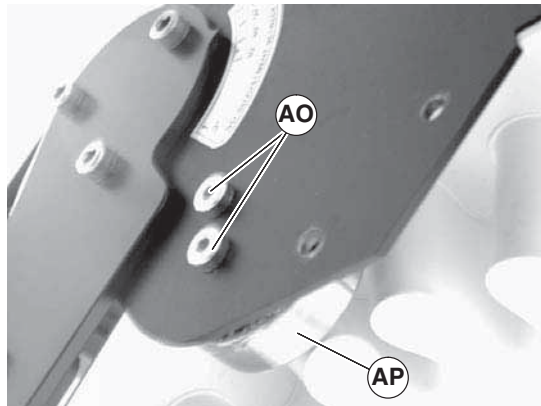

Figure 26
- Remove belt (Figure 26, item AQ) from conveyor.